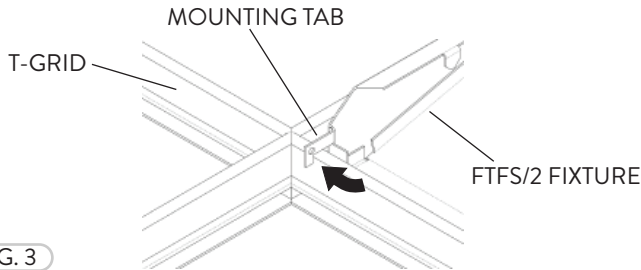

FIG. 3
- 1 The FTFS/2 fixture has Mounting Tabs at all four corners. Carefully bend out (4) Mounting Tabs to 90° on all four corners to fit onto the T-Grid (Fig. 3).